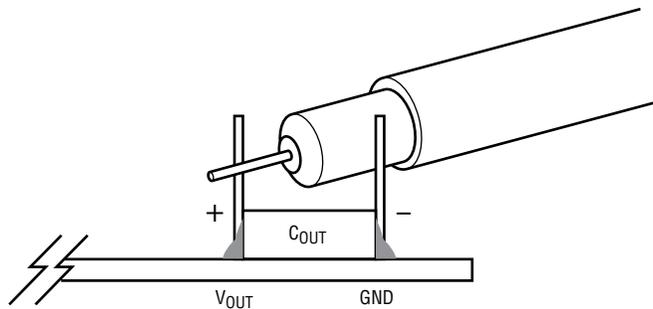

Figure 2. Scope Probe Placements for Measuring Input or Output Ripple
- Once the input and output voltages are properly established adjust the loads within the operating range (0A to 1A max) and observe the output voltage regulations, output ripple voltages, switch node wave-forms and other parameters. Refer to Figure 2 for proper input/output voltage ripple measurement.
Note 1: To measure the input/output voltage ripple properly, do not use the long ground lead on the oscilloscope probe. See Figure 2 for the proper scope probe technique. Short, stiff leads need to be soldered to the (+) and (-) terminals of an output capacitor. The probe's ground ring needs to touch the (-) lead and the probe tip needs to touch the (+) lead.